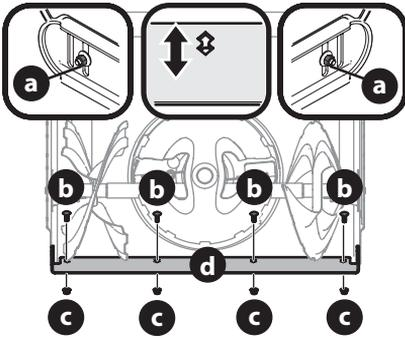

Figure 53
3. Loosen rear skid shoe nuts (a) on both sides of auger housing and remove carriage bolts (b) and hex nuts (c) which attach shave plate (d) to the bottom of the auger housing (Figure 53).
- Adjust the shave plate to one of 2 mounting positions. Reinstall and securely tighten all carriage bolts, nuts and skid shoe hardware from Step 3 (Figure 53).